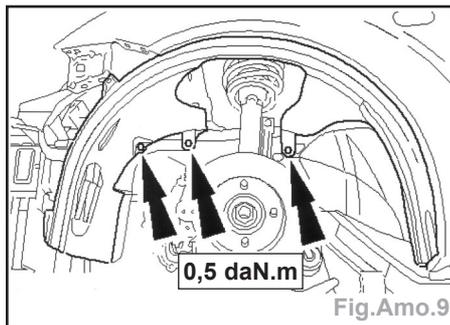

Fig.Amo.9
- la tôle pare-projections (flèches) (Fig.Amo.9),